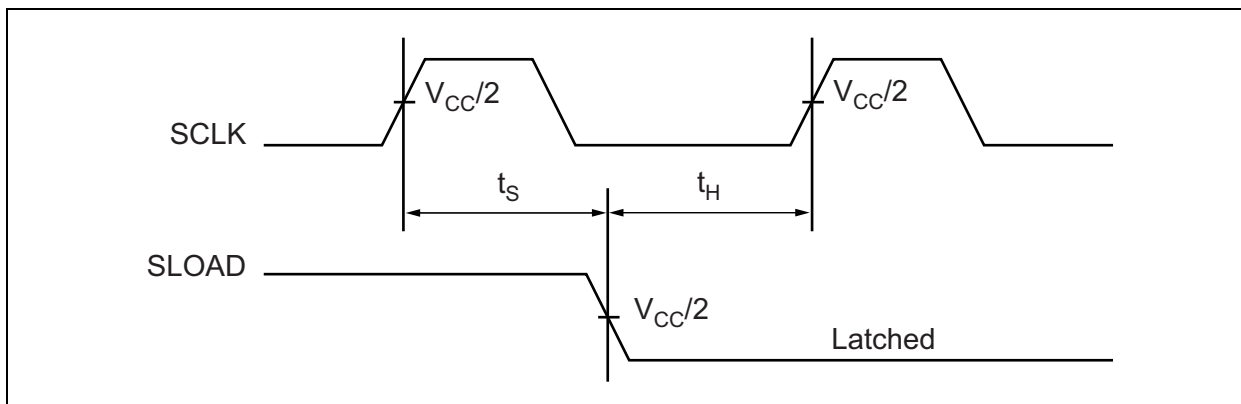

FIGURE 4-2: Setup and Hold Time: SCL and SLOAD.
- 3:** SCLK has to transition L-H a setup time before the SLOAD H-L transition to ensure the valid data is properly latched. See Figure 4-2.
- 5:** SCLK has to transition L-H a hold time after the SLOAD H-L transition to ensure that the valid data is properly latched before starting to load new data. See Figure 4-2.